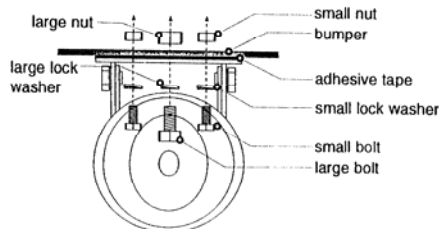

Figure 1
2. Using 1/4" drill bit, drill mounting holes for lamp bracket and install bolts, lock washer and nuts (Do not over tighten) (Figure 1)